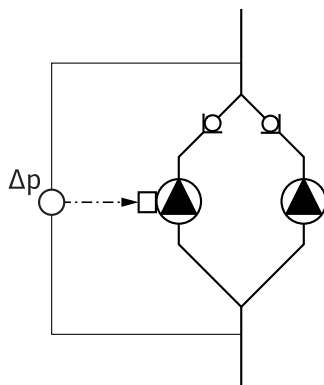

Fig. 18: Example, differential pressure sensor connection
- In the example in Fig. 18, the master pump is the left-hand pump in the direction of flow. Connect the differential pressure sensor to this pump.
- The measuring points of the differential pressure sensor of the master pump must be on the suction and pressure side of the double-pump system in the corresponding collector pipe (Fig. 18).